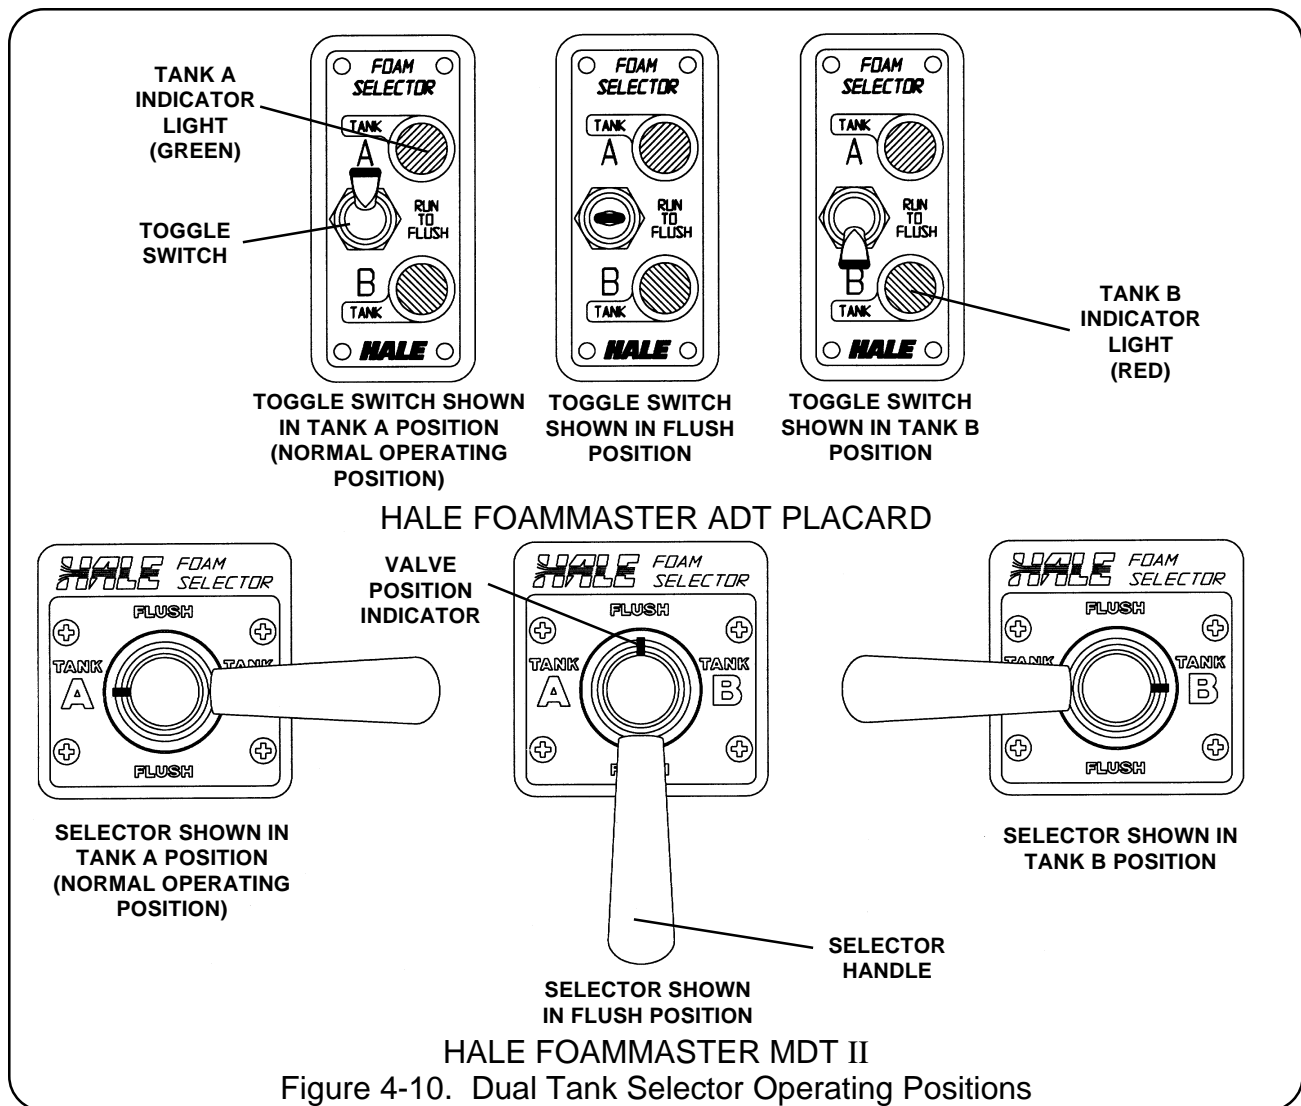

Figure 4-10. Dual Tank Selector Operating Positions
2. Flip the Hale ADT toggle switch down or turn the Hale FoamMaster MDT II handle until the indicator points toward the desired tank (See figure 4-10). When changing toggle switch or selector handle position, move smoothly from the **TANK A** position through the **FLUSH** position to **TANK B** position in one motion without stopping. With the fire pump discharging water and the Hale FoamMaster operating, a small volume of water will be provided to separate the two foam types helping to prevent possible reactions.
The following procedures shall be used to flush the foam pump. Refer to figure 4-10 for ADT or MDT II operating positions and refer to figure 4-11 for MST operation: